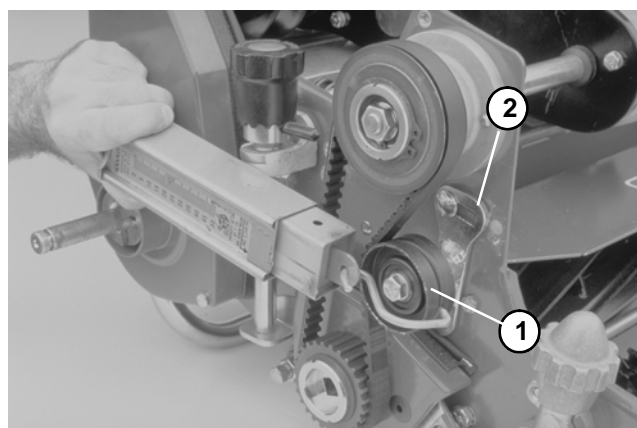

Figure 66
12. Adjust tensions of differential and both drum drive belts from 20 to 25 lbs (89 to 111 N) of force. Use a scale to pull on the idler pulley while securing the idler brackets by tightening both carriage bolts and lock nuts (Fig. 66).